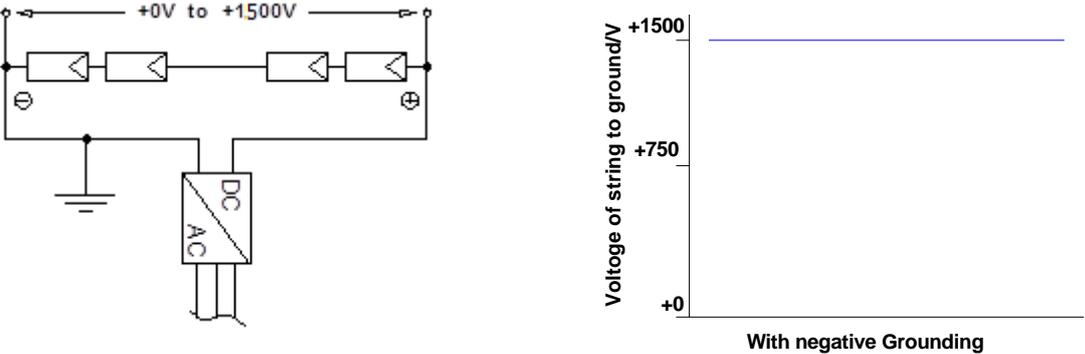

Figure 7 Schematic diagram for grounding potential of the inverter
7.5.6 If the module is used in high-temperature and high-humidity environment, TW solar suggest the customer configure the inverter which allows negative grounding and contains isolation transformer (as shown in figure 7).